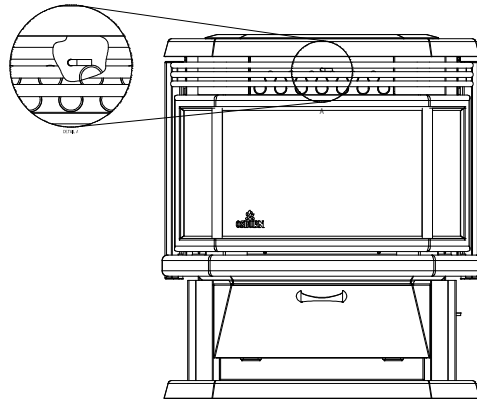

FIGURE 19
- Heat Exchange Tubes** – Your Osburn Hybrid-45 MF stove is designed with a built-in heat exchanger tube cleaner. This should be used weekly to remove accumulated ash on the tubes. To clean the heat exchanger, open the door and grab the cleaning rod located behind the louvers (just above the stove's door) and push it forward. Close the door. Slide the cleaning rod back and forth two or three times from front to back (refer to figure 19). When finished, push the cleaning rod back in, behind the louvers.